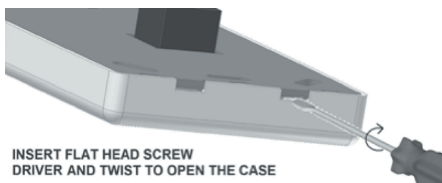

FIGURE 3
a) Insert a flat head screw driver into the two gaps at the bottom of the casing and turn the screw driver blade just enough to open the cover as shown in Figure 3 then remove the back cover by sliding it out.